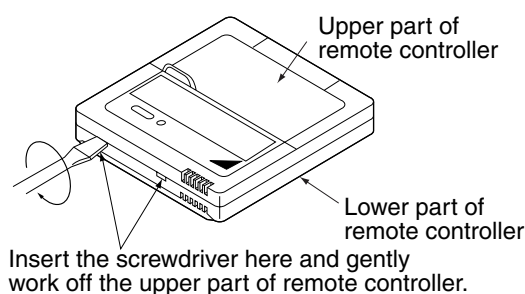

Fig. 34
- Insert a  $\ominus$  screwdriver into the recess between the upper and lower parts of remote controller and, working from the 2 positions, pry off the upper part. (Refer to Fig. 34)